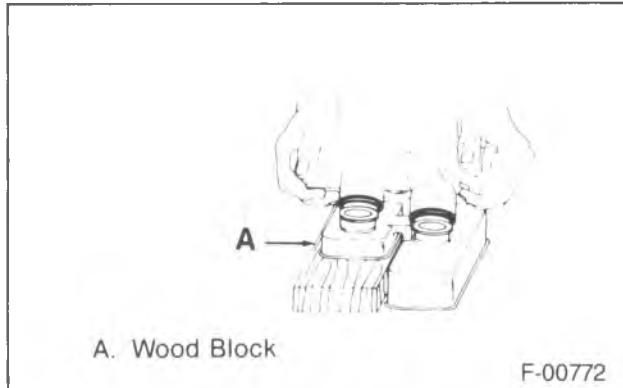

Figure 12—Installing the Reservoir
- 1. Spring (6) and spring retainer (7).
- 2. Seals (8 and 10) onto the secondary piston (9).
- 3. Secondary piston (9).
- 4. Primary piston assembly (12).
- 5. Snap ring (11).
- 6. Grommets (4).
- 7. Reservoir (3) (figures 12 and 13).
- 8. Diaphragm (2) into the cover (1).
- 9. Cover (1).